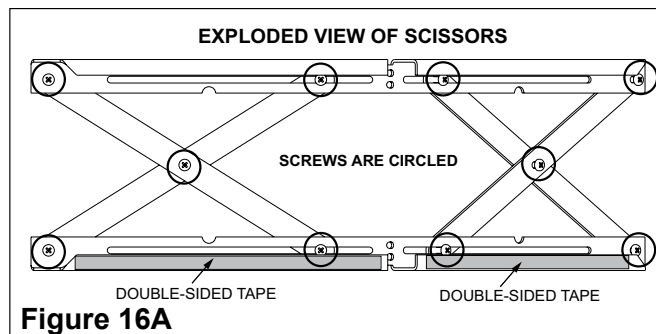

Figure 16A
1. The 10 screws on each set of scissors will already be loose when shipped. **Figure 16A.**